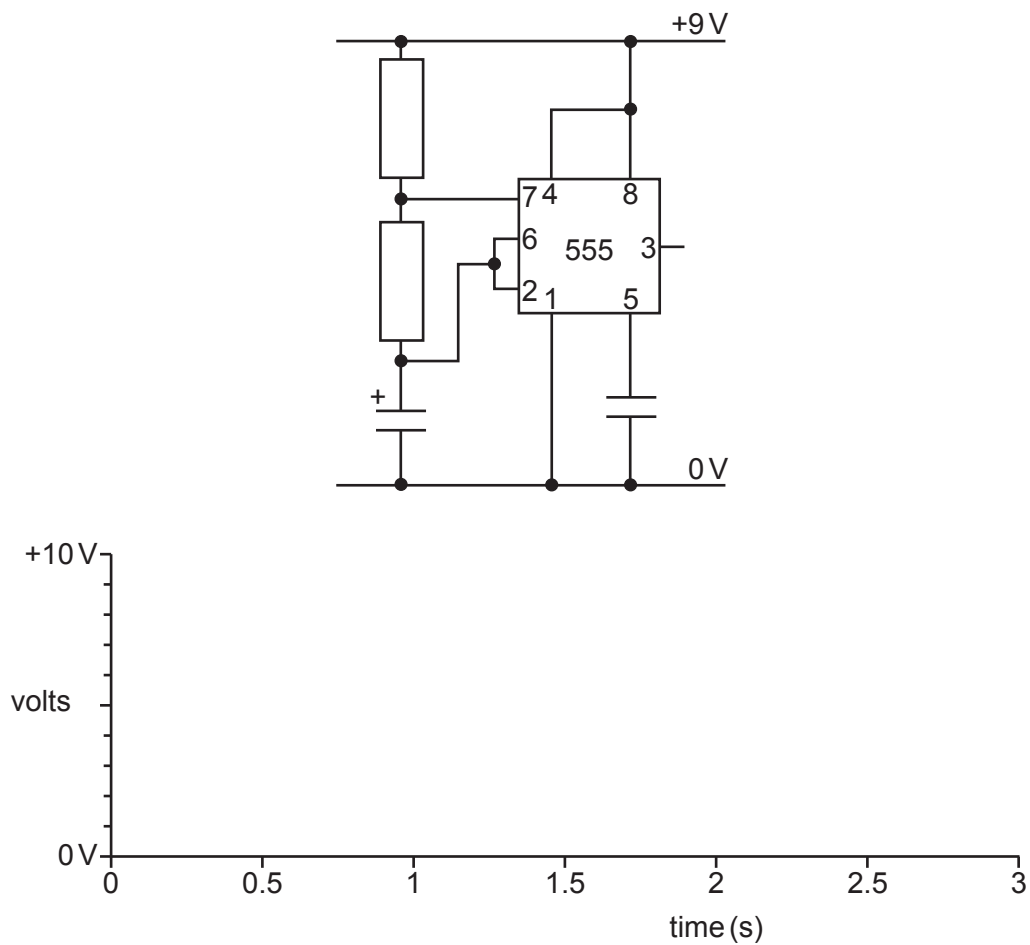

Fig. 12.5
- (d) Fig. 12.5 shows an astable circuit with an output frequency of 1 Hz.
Complete the graph in Fig. 12.5 to show the astable output signal.